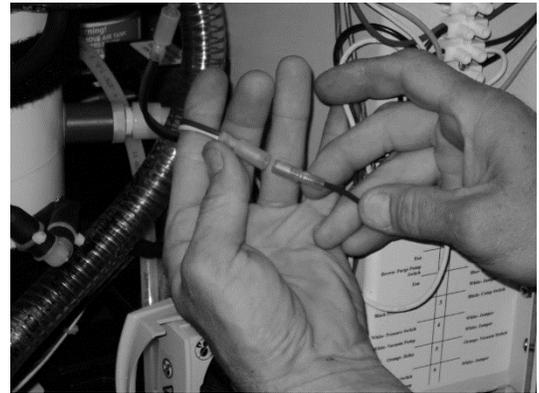

Fig. 8
Step 9 - Disconnect the bullet connectors from the purge pump wires. (Fig. 8)